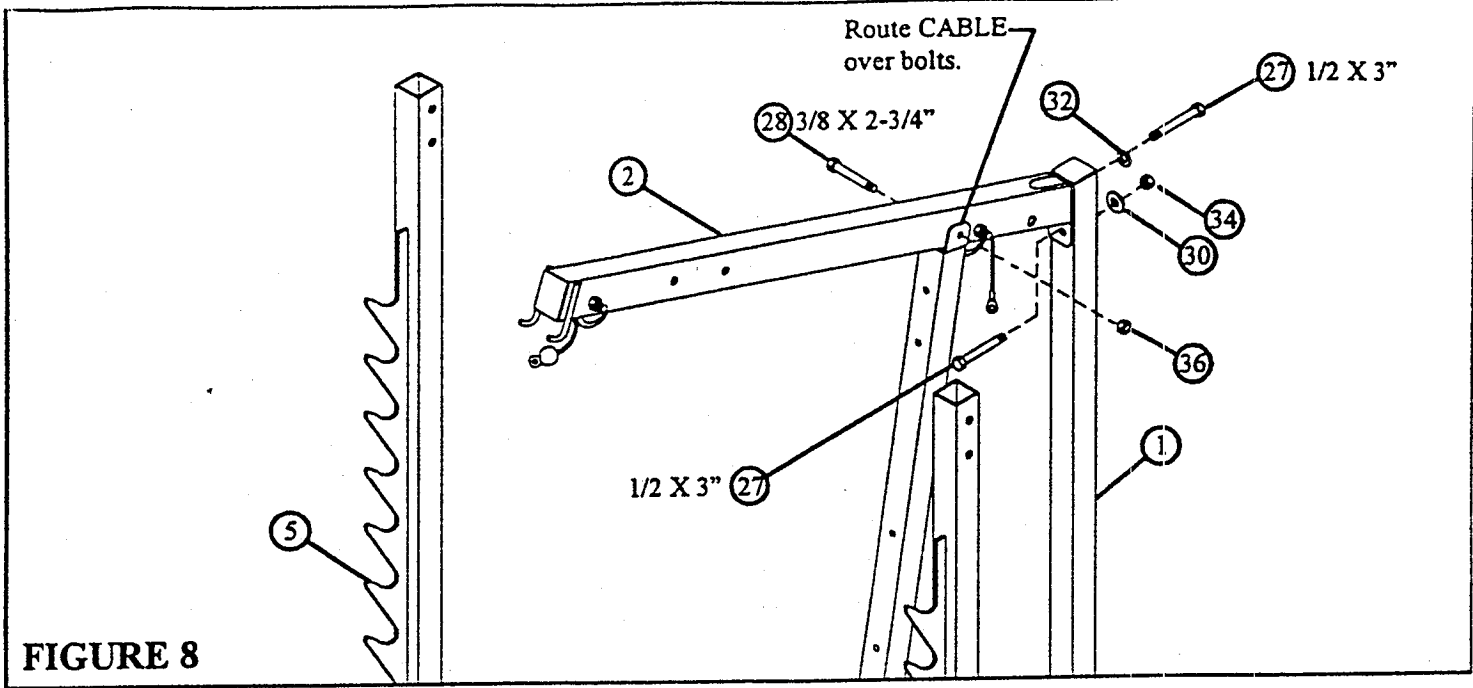

FIGURE 8
- **LOOSELY** assemble the TOP BOOM (2) to the UPRIGHT FRAME (1) using two 1/2 X 3" BOLTS (27), one 3/8 X 2-3/4" BOLT (28), one 1/2" LOCK WASHER (32), one 1/2" WASHER (30), one 1/2" LOCKNUT (34), and one 3/8" LOCKNUT (36) as shown in FIGURE 8.